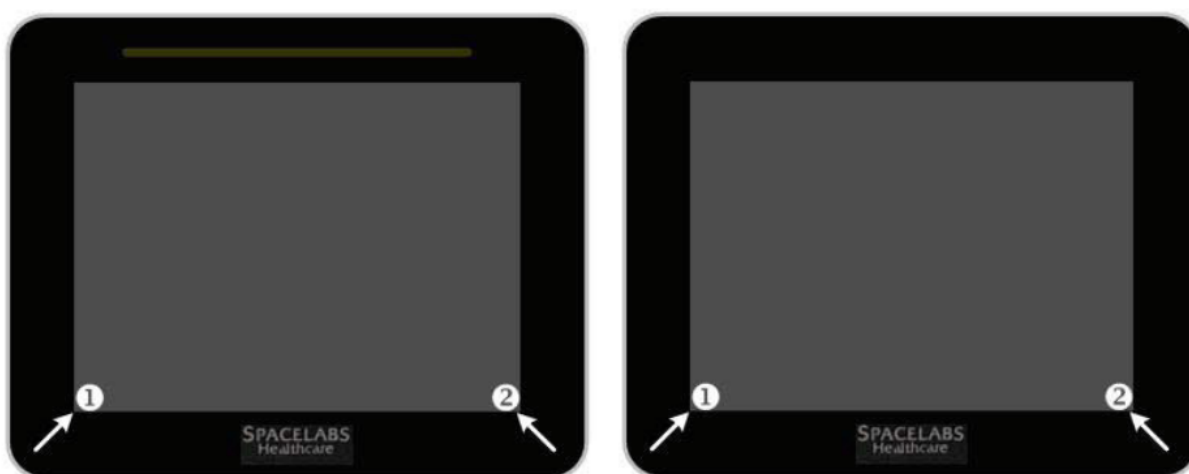

Figure 4-8 Touch Points to Enter Extended Diagnostics on Options A and B (left) and Option C (right)
- 4 To enter extended diagnostics, touch the lower corners of the touchscreen in sequence during the 4-3-2-1 countdown. Touch the corners of the visible part of the lighted electronic display (LED), not the corners of the bezel (refer to Figure 4-8 on page 4-15). If you use a mouse, click both the right and left mouse buttons simultaneously during the countdown. The Main Diagnostics Menu is shown in Figure 4-9.